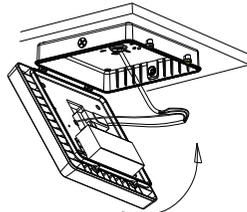

Figure 2-7
7. Turn the radiator up then cover the junction box, Figure 2-7